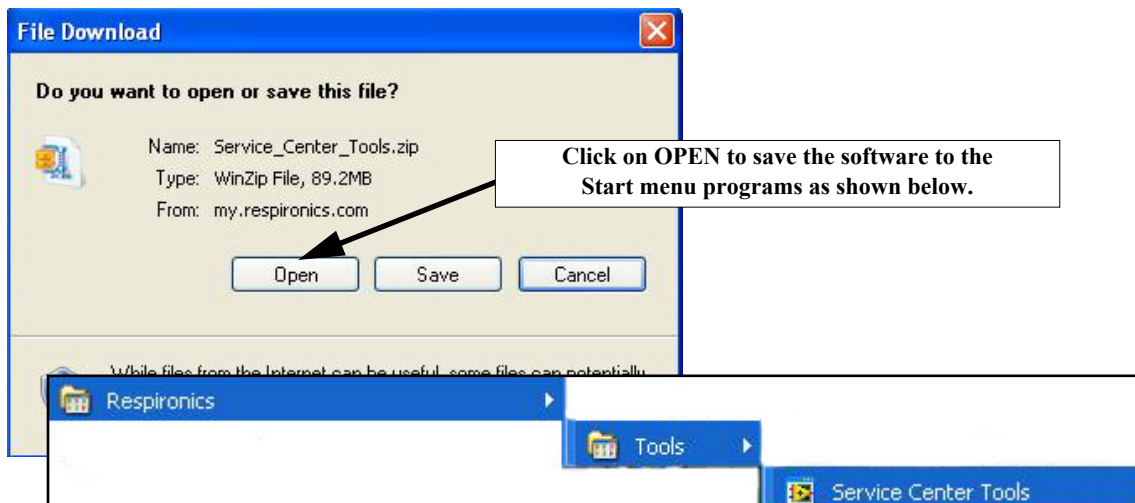

FIGURE 8-3: SAVING SOFTWARE
3. If you wish to transfer the software to a different PC, click on the *Save* button and save the file to an accessible drive, otherwise, click on the *Open* button and download the software to your PC. Downloading the software to the default location will place it in the Windows *Start* menu, as shown in Figure 8-3.